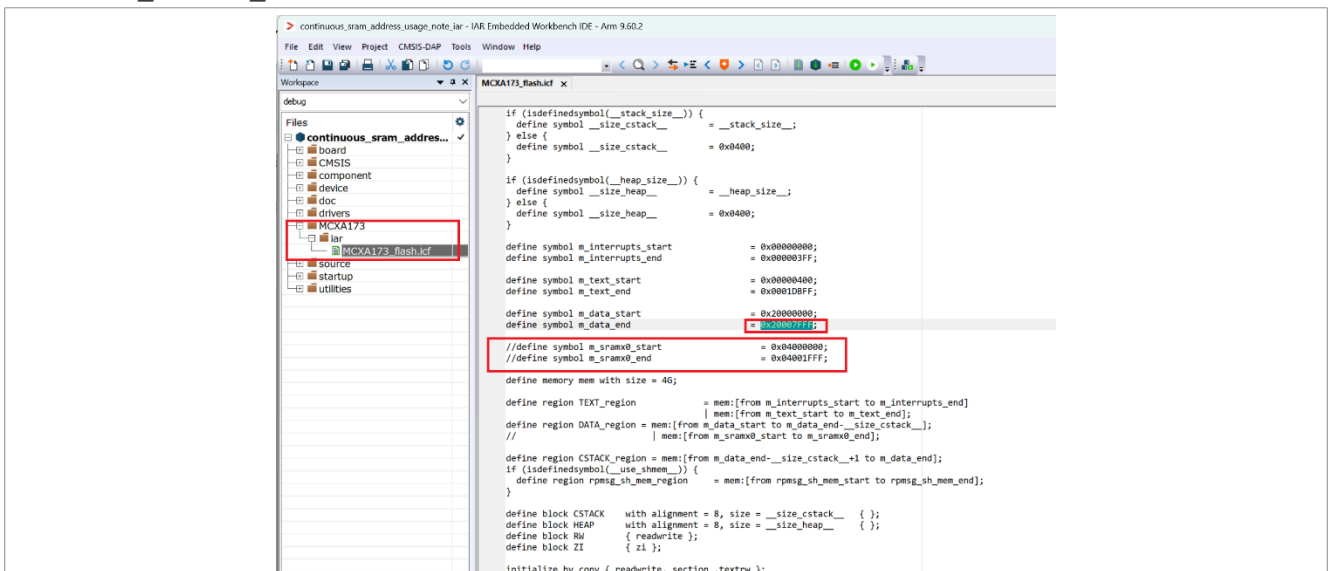

Figure 7. MCX A173 SRAM settings in IAR IDE's linker file
- For MCX A173, as shown in Figure 7: